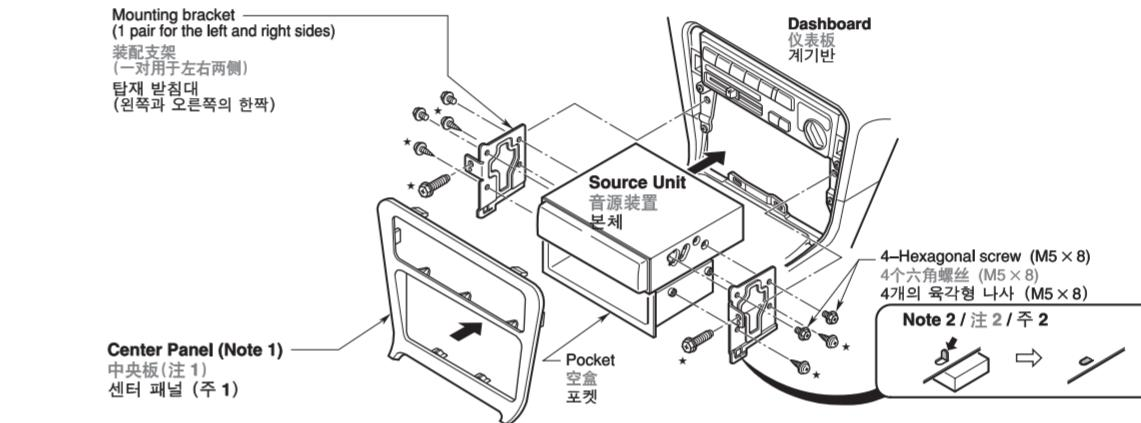

Figure 9 / 圖 9 / 그림 9
If the vehicle is equipped with a factory-installed radio, install the source unit with the parts and screws marked (*). (Figure 9)
- Secure the mounting brackets to the chassis as shown in Figure 9. When the source unit is installed without the universal mounting bracket, holes exist; modification, such as drilling new holes, of the mounting brackets may be required for other models.